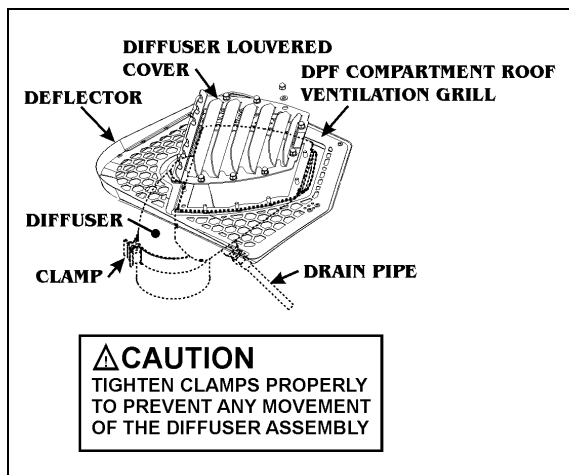
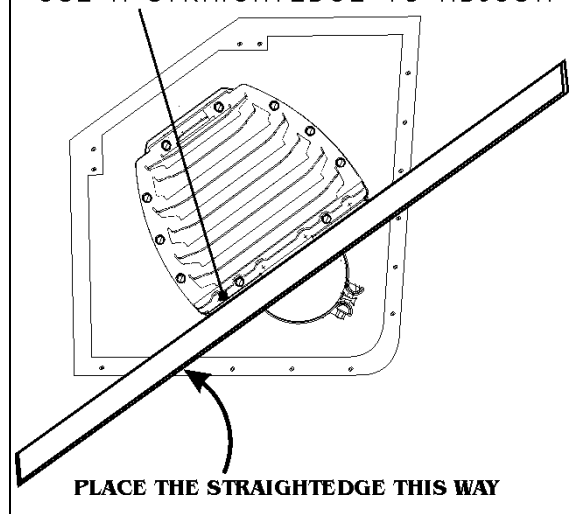

FIGURE 9: DIFFUSER ASSEMBLY
FIGURE 11: DIFFUSER POSITION ADJUSTMENT 04015_2
3. Using a straightedge, adjust the diffuser assembly level. The top surface of the warning plate fixed on the diffuser louvered cover must be flush with the roof surface (fig.9). It may exceed about 1/4in (6mm). Place the straightedge as shown on figure 11.